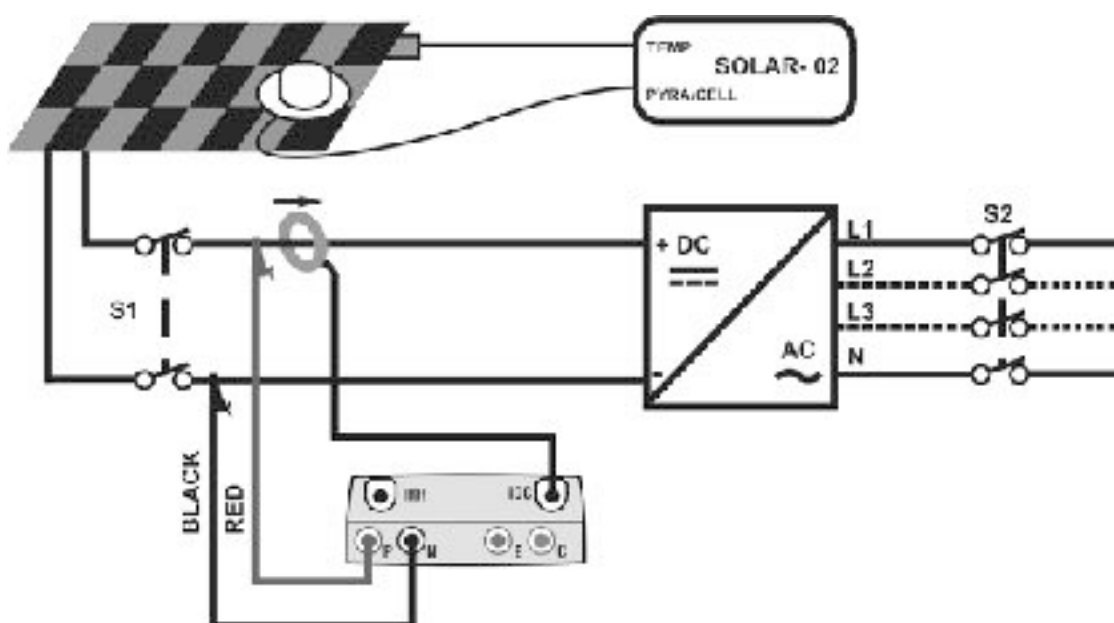

Fig. 4: Connection of instrument for efficiency measurement on a PV installation
7. Connect the inputs **P** and **N** respectively to the positive and negative output of the string, respecting the colours indicated in Fig. 4
9. Connect the DC current clamp to the positive output conductor of the string, **respecting the direction of the arrow** found on the clamp itself as indicated in Fig. 4